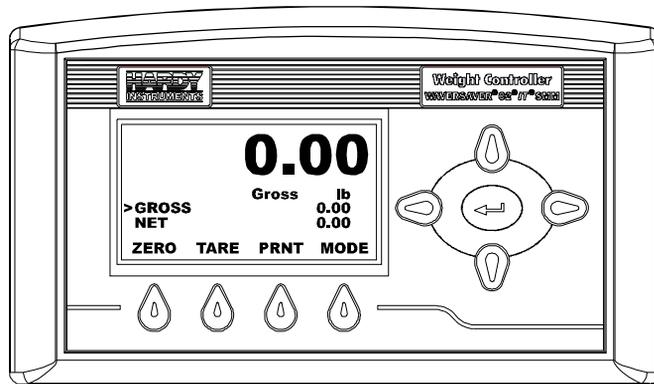

FIG. 38 SUMMARY DISPLAY
- Step 2. The Instrument boots up to the Summary Display. (See Fig. 38)